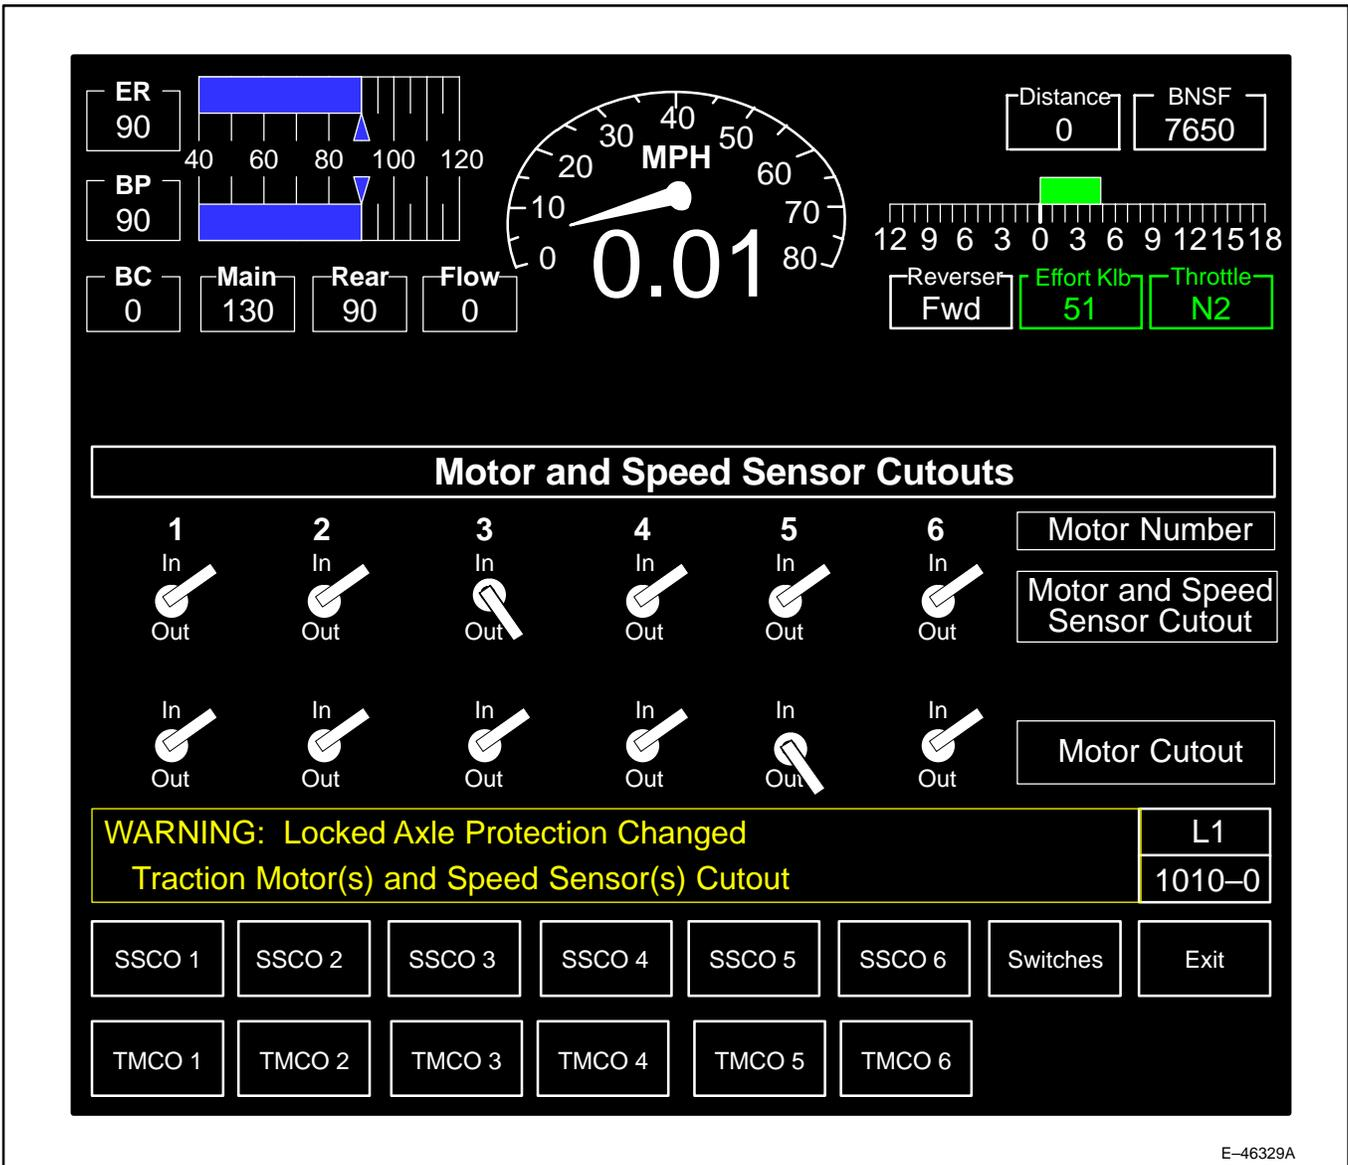

Figure 60. Motor And Speed Sensor Cutouts Screen (1010-0).
- 4. Pressing key position F7 (**Motor Cutouts**) will display screen 1010-0 (Figure 60). Fourteen soft keys are active on this screen as follows:
3. When the Motor and Speed Sensor Cutout switch (Figure 60) is in the CUT OUT position, the speed signal from that speed sensor is ignored. A STATUS message will appear on the SDIS.